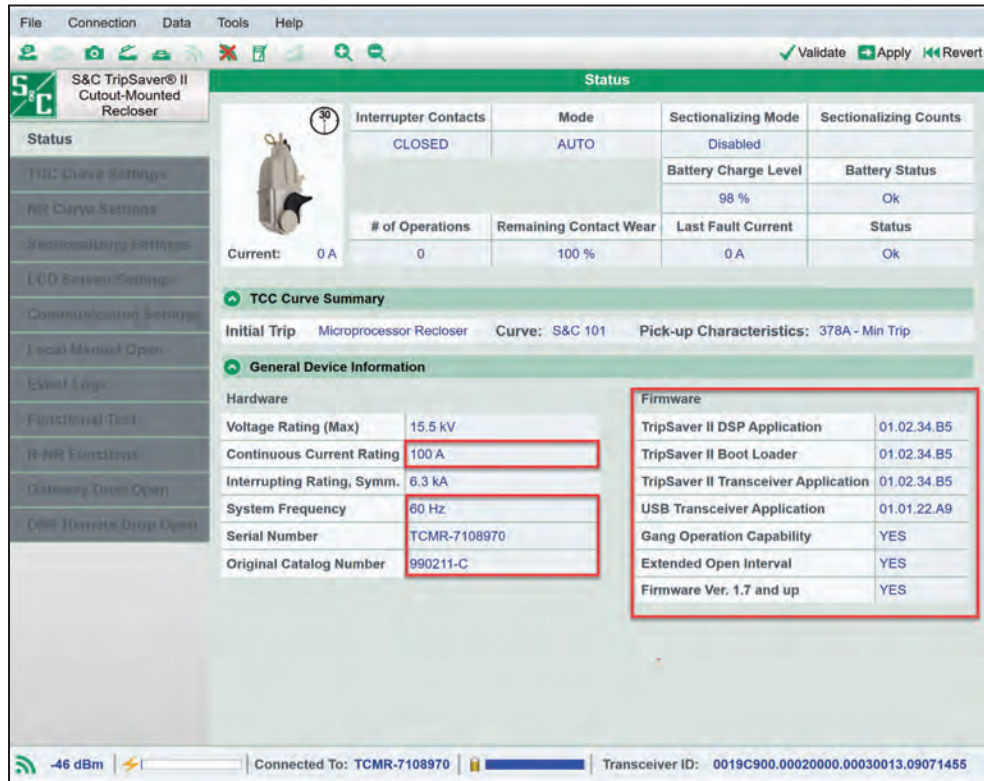

Figure 57. Status screen to check the latest firmware version.
**STEP 7.** A “Success” message will appear upon successful completion of the firmware update. After the update, check the *Status* screen to make sure the latest firmware has been applied correctly. See Figure 57.